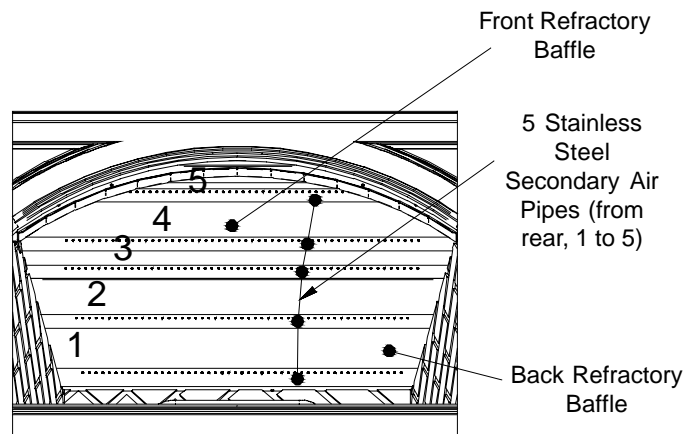

FIGURE 6
**Caution:** You will need to hold on and balance the Front Refractory Baffle while doing this step (see Figure 6).